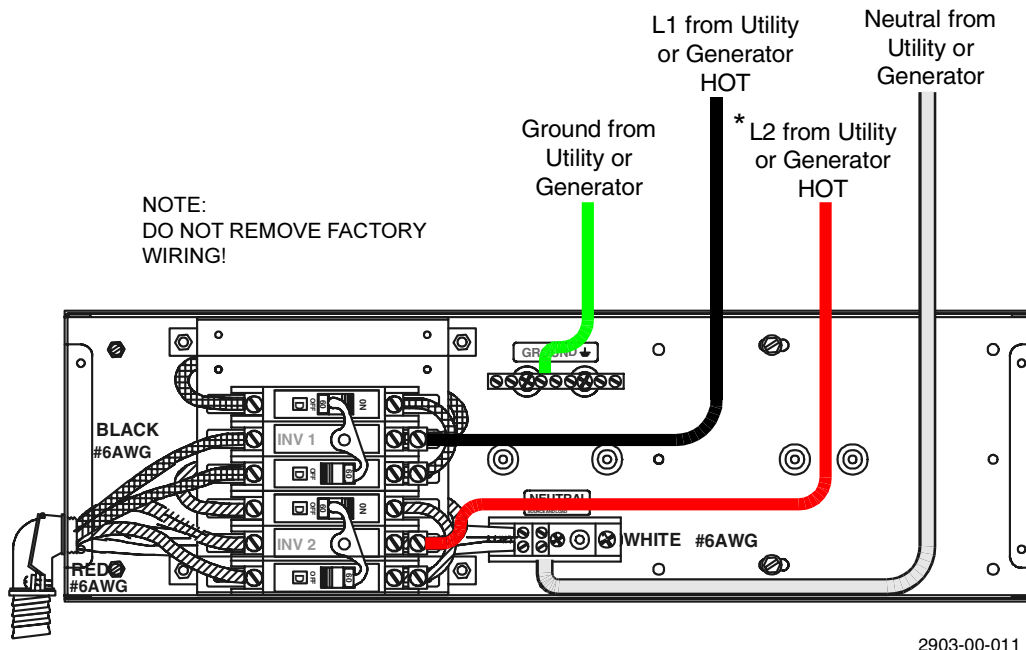

Figure 15
- Connect the Ground from the main utility box to the ground terminal in the AC Disconnect/Bypass Box as indicated in Figure 15.
- Connect the Neutral wire from the main utility box to the Neutral block in the AC Disconnect/Bypass box as indicated in Figure 15.